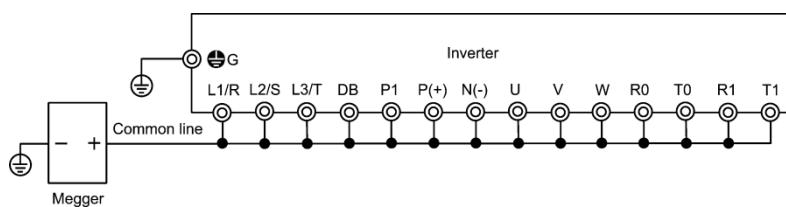

Figure 7.6-1 Main Circuit Terminal Connection for Megger Test
- 3) Connect the main circuit terminals with a common line as shown in Figure 7.6-1.
- 4) The Megger test must be limited to across the common line of the main circuit and the ground (G).